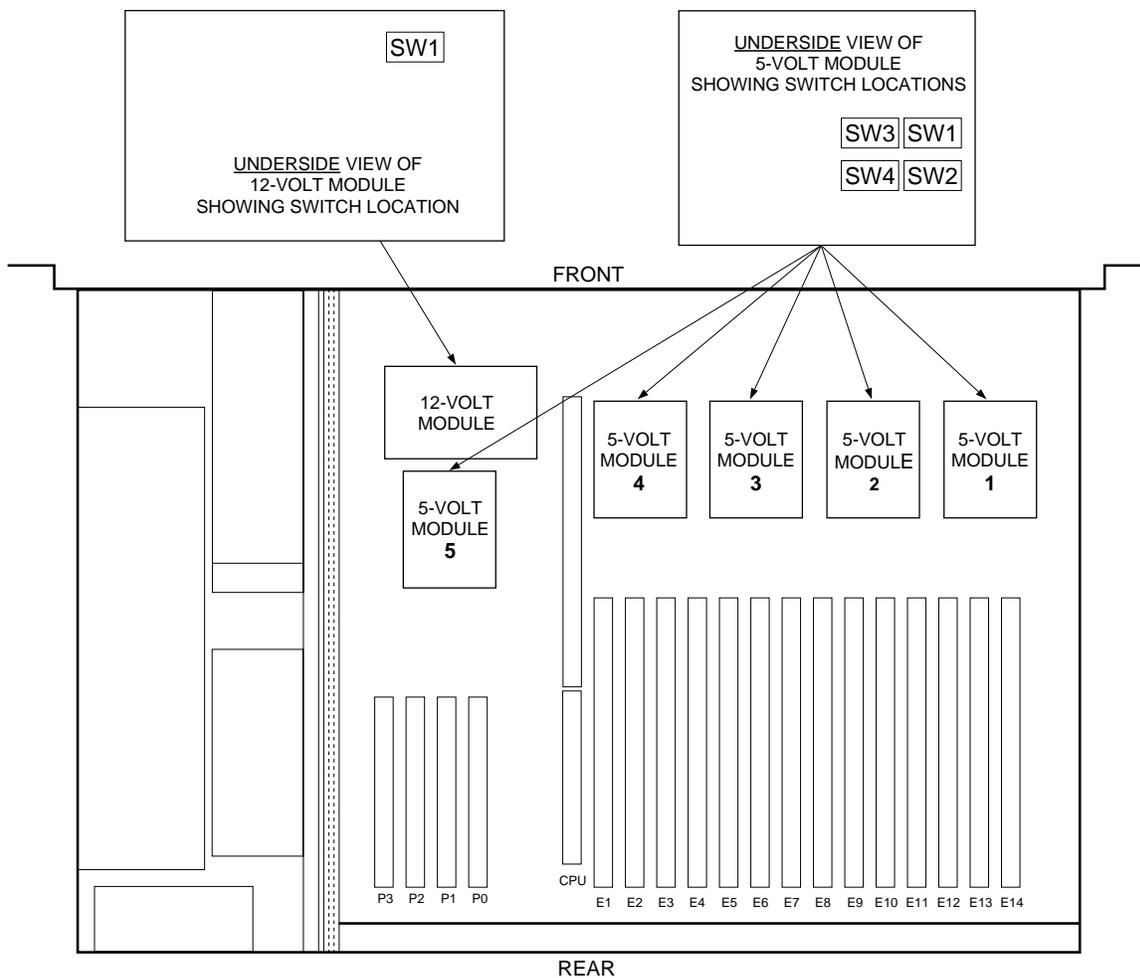

Figure 1. Current Sensor Locations
Summary: The CDSU-II has 6 current-sensing daughter boards (referred to throughout the rest of this section as "current sensors") mounted on the CDSU-II backplane. These current sensors are equipped with switches which are used to set the overcurrent values for the various circuit pack slots within the CDSU-II. In order to verify and configure the switch settings on these current sensors, they have to be removed from the backplane (because the switches are located on the underside of the current sensors). Also, since the current sensors are located underneath the various circuit packs, circuit packs will have to be removed in order to gain access to the current sensors. The locations of the various current sensors are shown in Figure 1. The correct switch settings for the various current sensors (along with slot assignments for the current sensors) are shown in Figure 2.
1. Determine which current sensor(s) are to be verified and configured. If a specific circuit pack is causing problems you may want to just check the settings for the specific current sensor associated with that pack (see Figures 1 and 2 for current sensor locations and slot assignments)